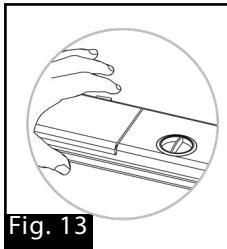

Fig. 13
1. Press the button on the detergent compartment (Fig. 13).